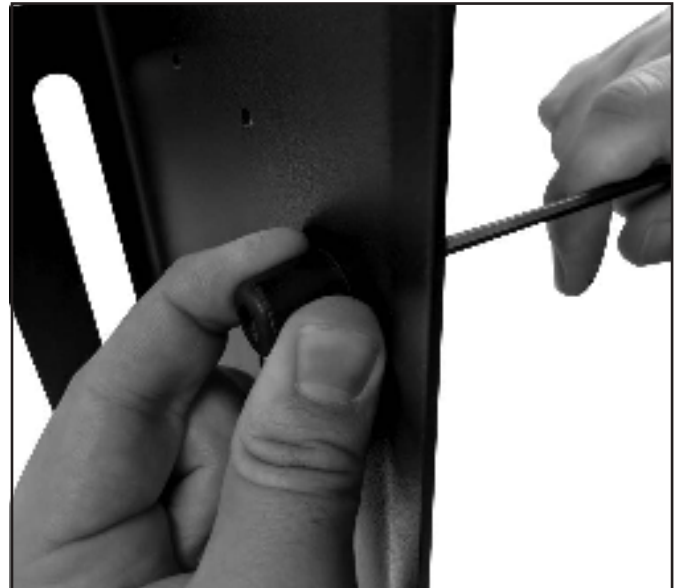

Figure 2 (Left): Nut clip centered in hole of bed
- 4** Install the rubber bumpers onto the hornet light bracket using the included 8-32 bolts and nuts. Using the 9/64" Allen, set the nuts inside the bumper and squeeze to tighten onto the bracket as a socket will not fit inside the counter bore as seen in **Figure 2**.
- 6** At this point, install the hornet light on to the mounting bracket using the 10-32 nuts and bolts. This will require the 1/8" Allen and the 3/8" wrench. **(Figure 2)**